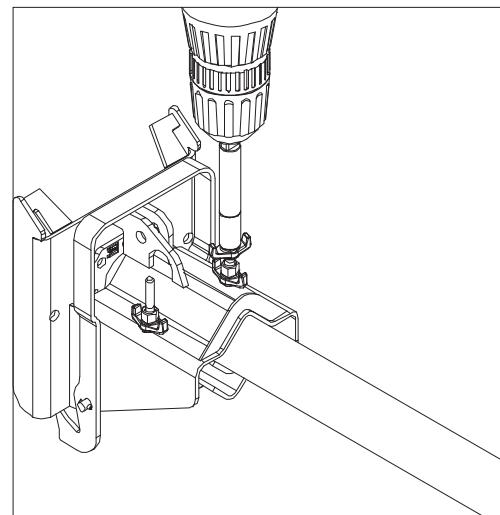

Fig. A2.03
- Fast assembly is possible with the Power Screwdriver (Item no. 072150) and Pipe Socket Wrench SW 20-½" (Item no. 072200). (Fig. A2.03)